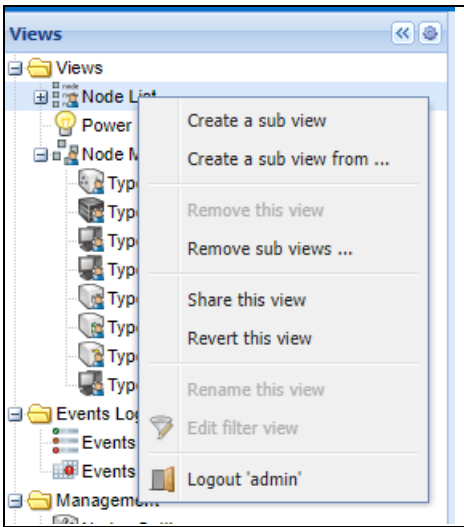

Figure 67. Contextual Subview Menu
2. Right-click this selection. The contextual subview menu displays (see Figure 67).
2. Right-click this selection. The contextual menu subviews displays (see Figure 67).